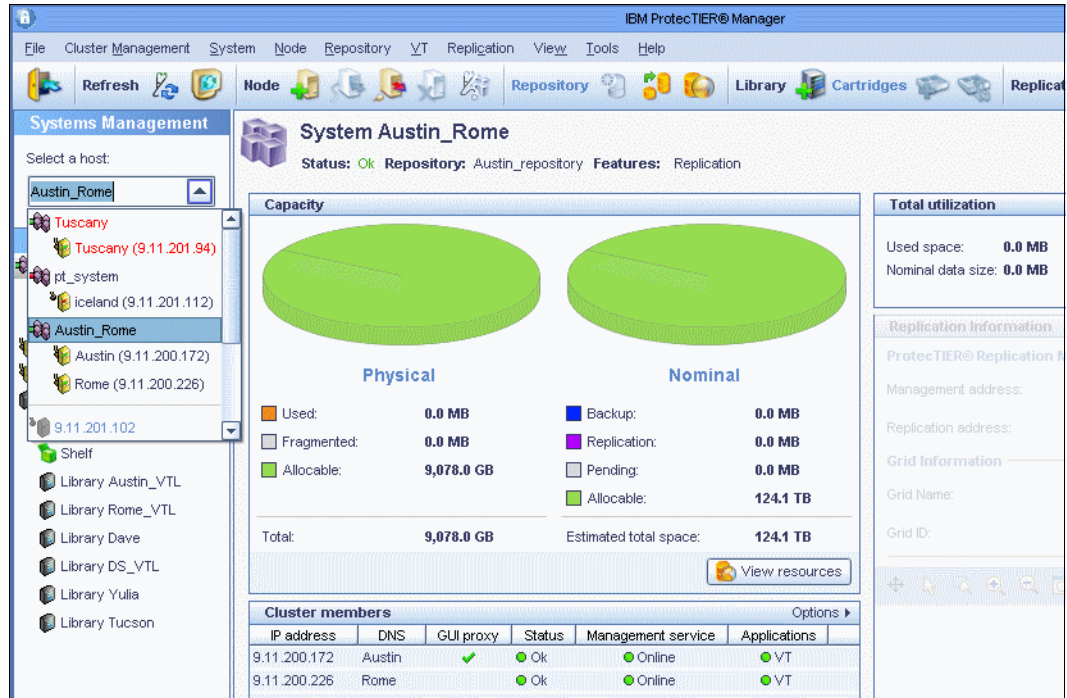

Figure 10-83 Remove cluster
- In the Systems tab of the Navigation pane, select a two-node cluster from which you want to remove a member (Figure 10-83).